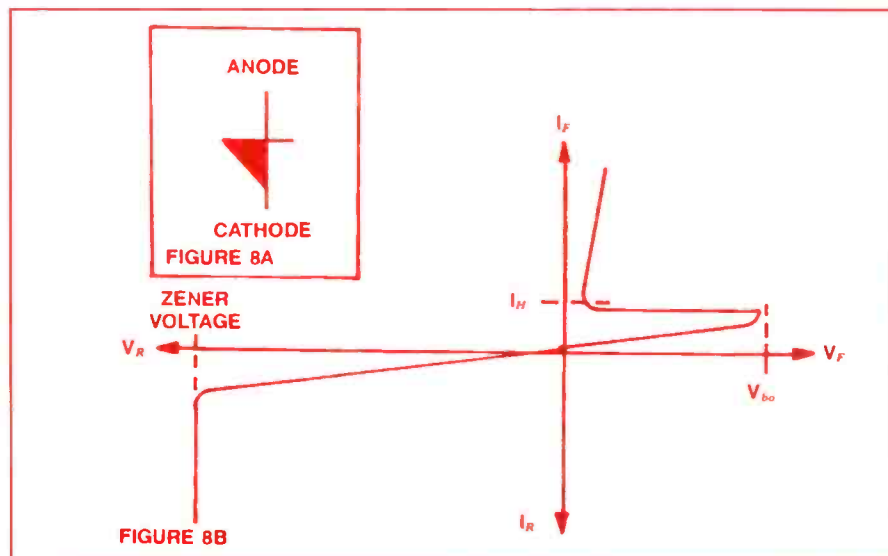

Figure 2. What electronic component does this symbol (8A), which has a characteristic curve as shown in 8B, represent?
4. The symbol in Figure 2 is for a \_\_\_\_\_.